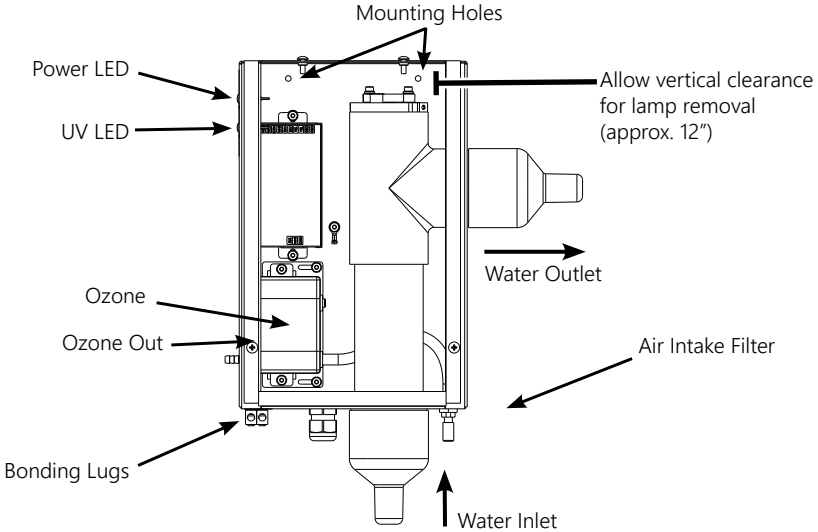

Figure 1: DEL AOP® Spa System Overview
- a. Use the two mounting holes located internally on the back panel of the DEL AOP Spa (Figure 1).